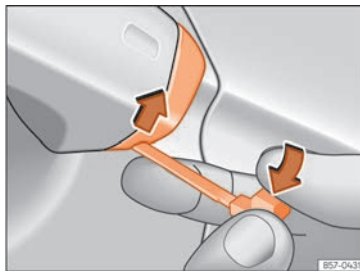

Fig. 83 Driver door handle: lever the cover off
- Insert the emergency key into the lower opening in the cover on the driver door handle » Fig. 83 then lift the bottom cover upwards.